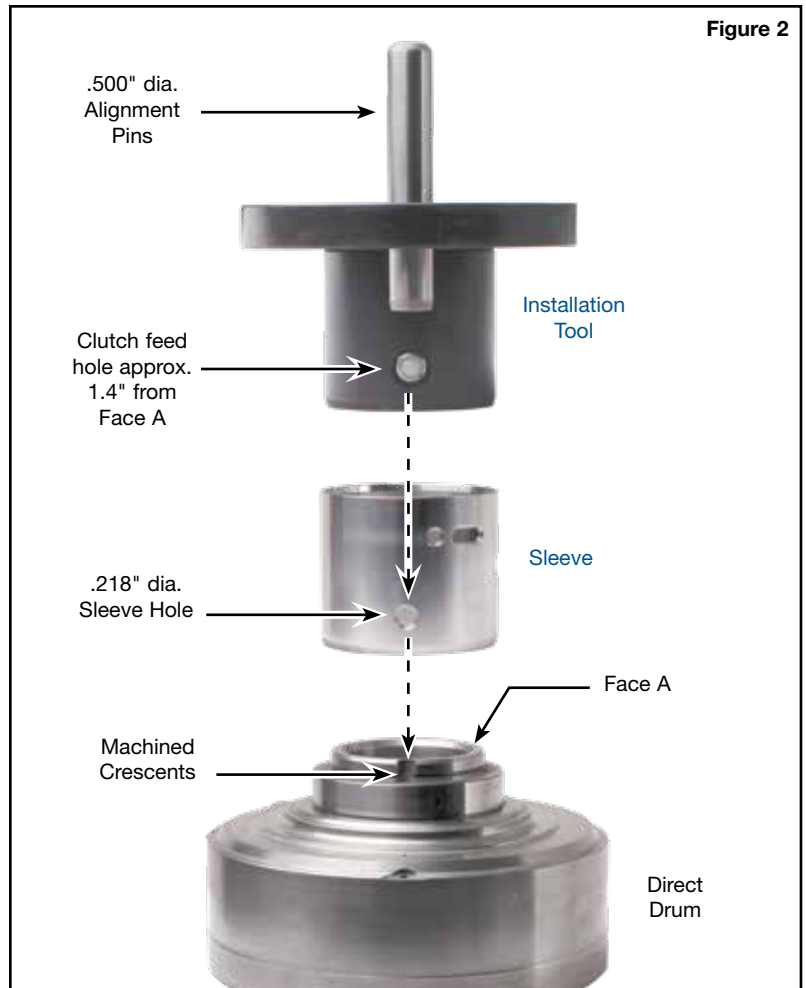
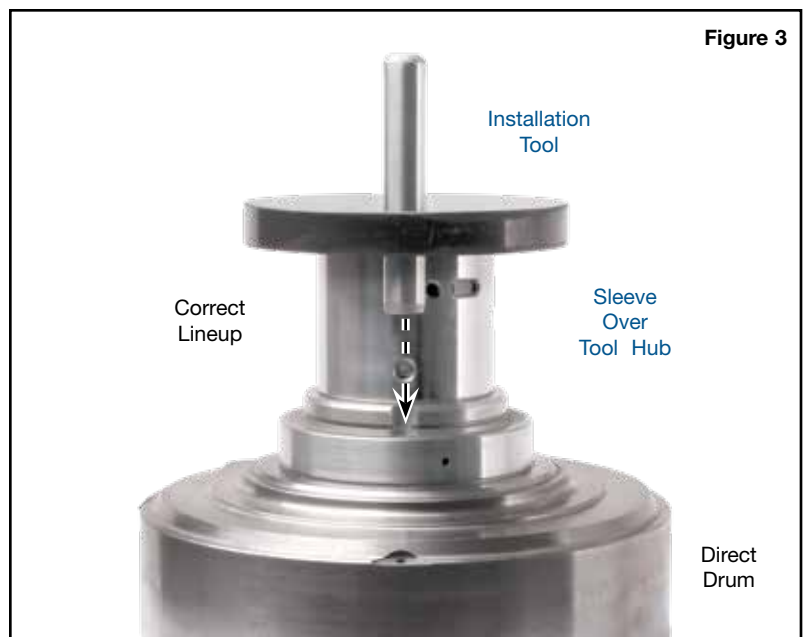

Figure 2
Figure 3
- Slide and align the sleeve over the installation tool hub until the .218" diameter sleeve hole has engaged the spring plunger ball on the tool hub (**Figure 2**).
- Place the two .500" diameter alignment pins vertically on the direct drum so that they are mated with the machined crescents on the direct drum (**Figure 2**).
- Position the sleeve/tool assembly over the drum bore, sleeve side down, rotate the tool until the spring plunger ball is aligned with the 3rd/Reverse apply hole. The center of the clutch feed hole is located approximately 1.4" from face A (**Figure 2**). The dowel pin holes in the tool hub should now be aligned with the two dowel pins (**Figure 3**).